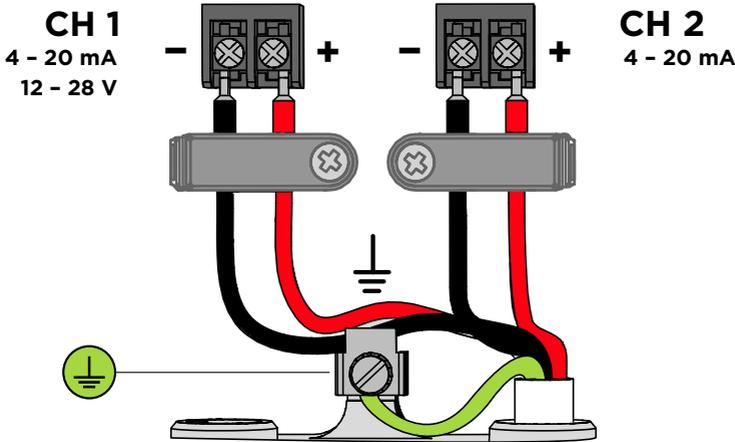

Figure 36 Wiring example using one cable
- b. Connect the wires to the screw terminals: for an example, see Figure 36 \(page 87\).